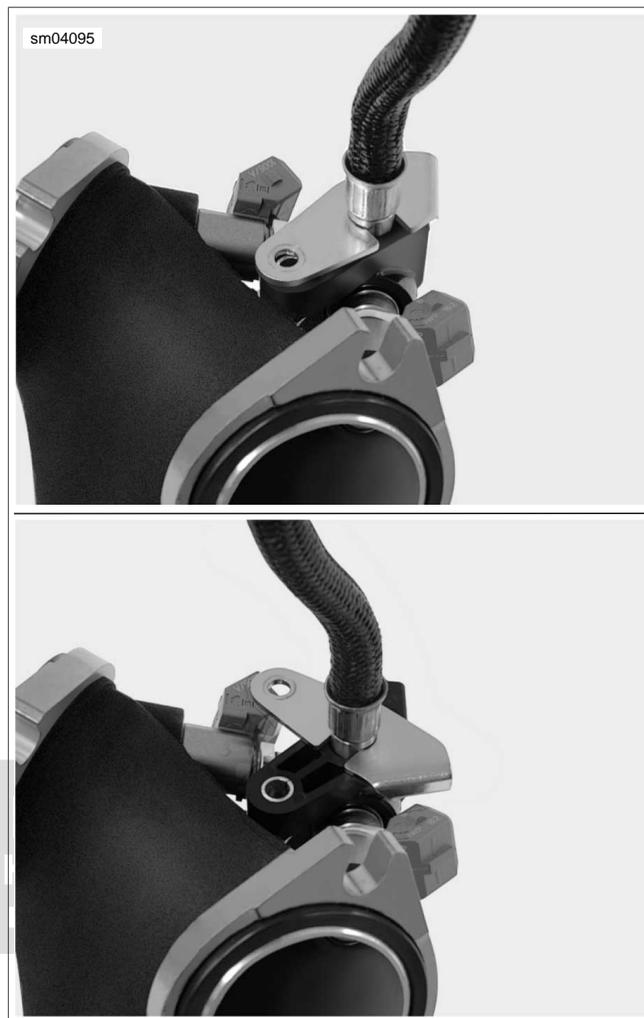

Figure 4-32. Rotate Fuel Supply Tube Clamp
3. Rotate fuel supply tube clamp 90° in a clockwise direction and then remove from groove in fuel supply tube fitting. See Figure 4-32.